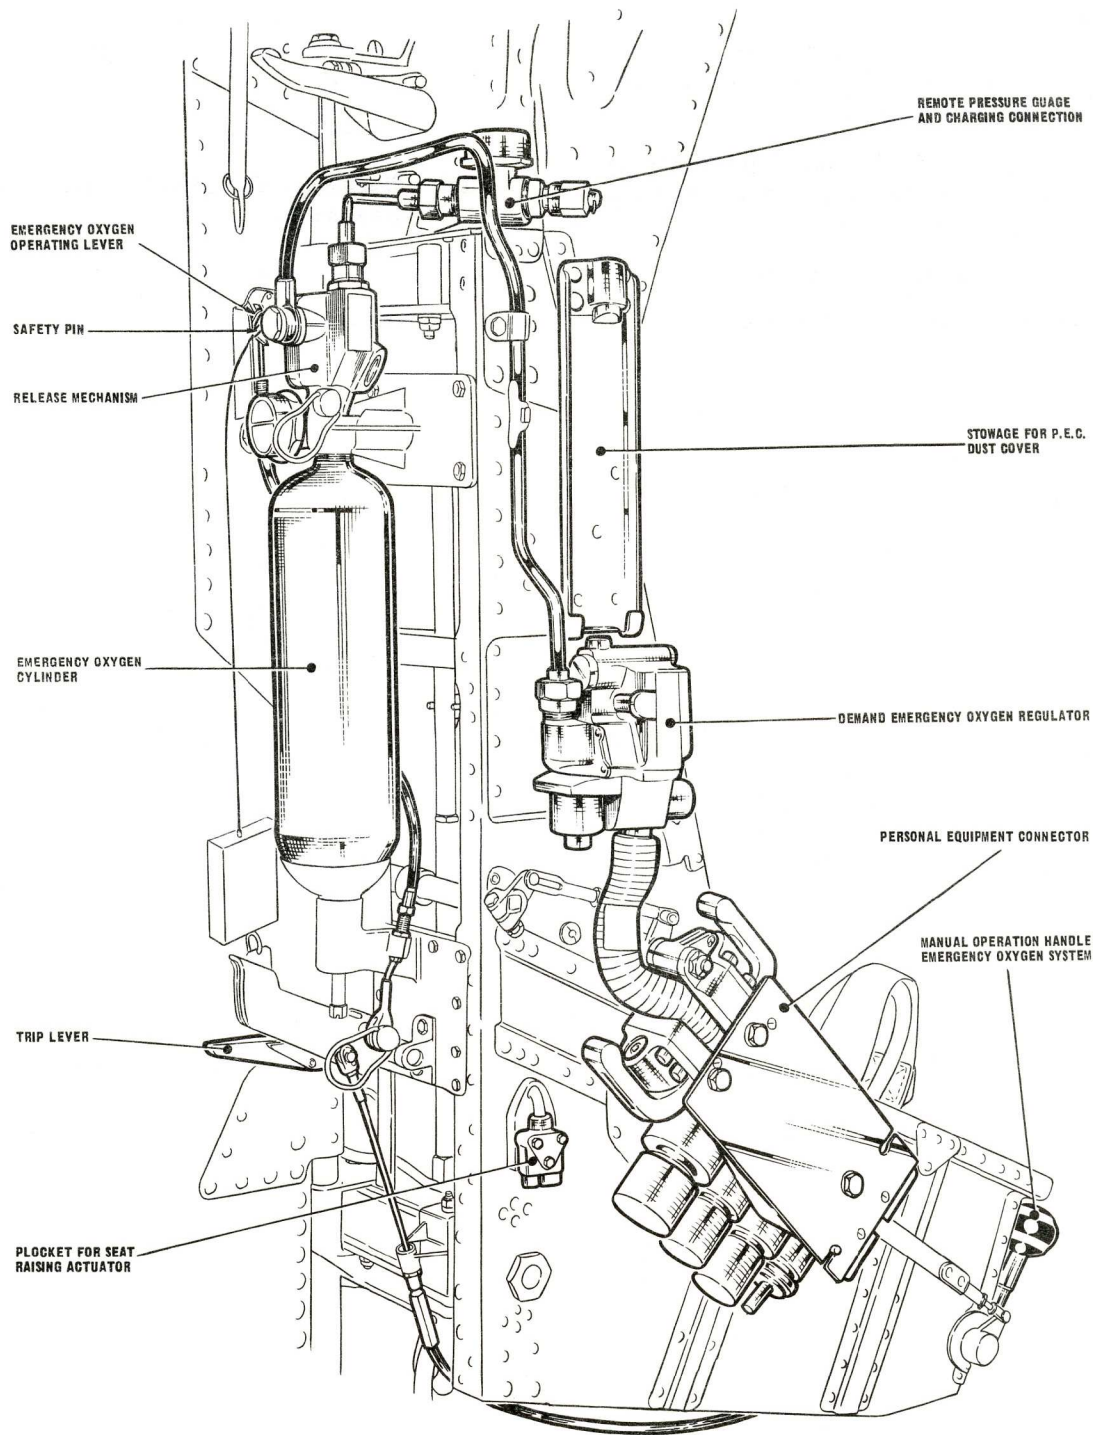

Fig. 1 Arrangement of oxygen supply on seat
16. The following procedure is to be followed when equipping the seat, referring to figs. 1 to 7 as necessary:-